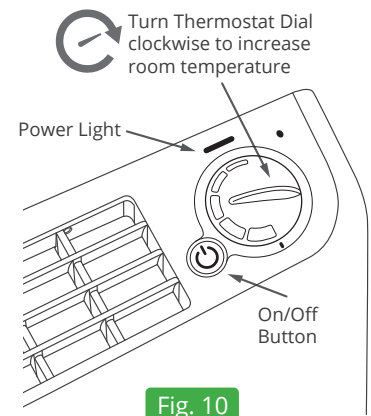

Fig. 10
- 2 Once the heater is connected, press the front on/off power button and the POWER INDICATION LIGHT will glow red. (Fig. 10)
- 3 The Envi Heater is equipped with a built-in thermostat which is adjusted with a dial at the top of the heater. Adjust the room temperature by turning the thermostat dial CLOCKWISE to increase the room temperature. If the area becomes too warm, rotate thermostat dial COUNTER-CLOCKWISE until the temperature is more comfortable. (Fig. 10)